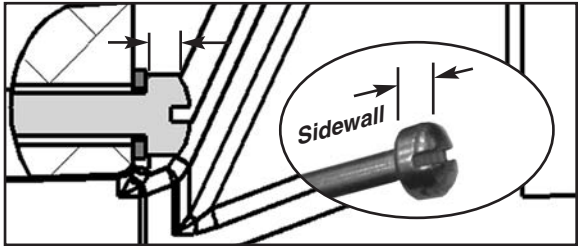

Figure 5 - Fillister-Head Through Bolt (If four found, alternator is acceptable)
- (2) To eliminate the risk of through bolt head separation, all pan-head through bolts must be replaced with HET P/N ALA-0020G fillister-head style through bolts on the affected alternators. Refer to Figure 2, Figure 3, and Figure 5.
- (3) The pan-head version of the HET P/N ALA-0020G through bolt is being discontinued and will no longer be used.
- (4) Regulatory action is unknown.
- b. If positive identification that four fillister-head through bolts are installed, the affected alternator is in compliance with this service bulletin. Proceed to 3.D(3), Return to Service. Refer to Figure 5.